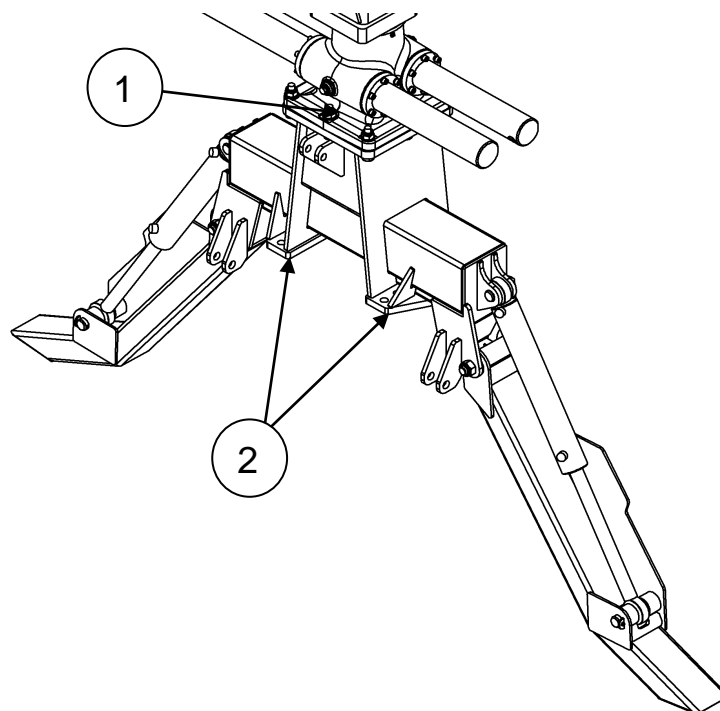

Figure 5. Connection junctions on Palms 840 support legs
Mounting of forest crane should be performed at the dealer service center or by person authorized by the manufacturer or dealer. Mounting/detaching the crane can also be made by end user, if professional equipment is used, all safety regulations are followed and at least one qualified mechanic is present during all the mounting/detaching process. Strength class for mounting bolts of slewing device-support legs (pos. 1, fig.5) and support legs-trailer (pos. 2, fig. 5) has to be 12.9 (DIN912). Use self-locking nuts M24. The tightening torque for the mounting bolts of the crane (pos. 1, fig. 5) and supporting legs (pos. 2, fig. 5) is 1220 Nm.